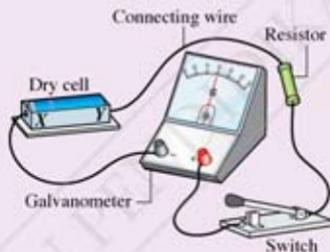

Figure 4.24
1. Set up the apparatus as shown in Figure 4.24.